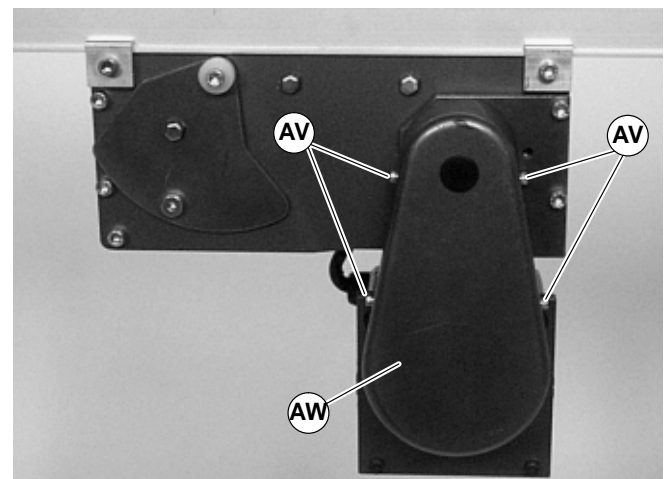

Figure 17
NOTE: Figures 17 & 18 show a vertical mount in the A position with a parallel shaft gearmotor. Horizontal mount, D position and/or 90° gearmotor are similar.
5. Remove cover screws (AV of Figure 17) and remove cover (AW).